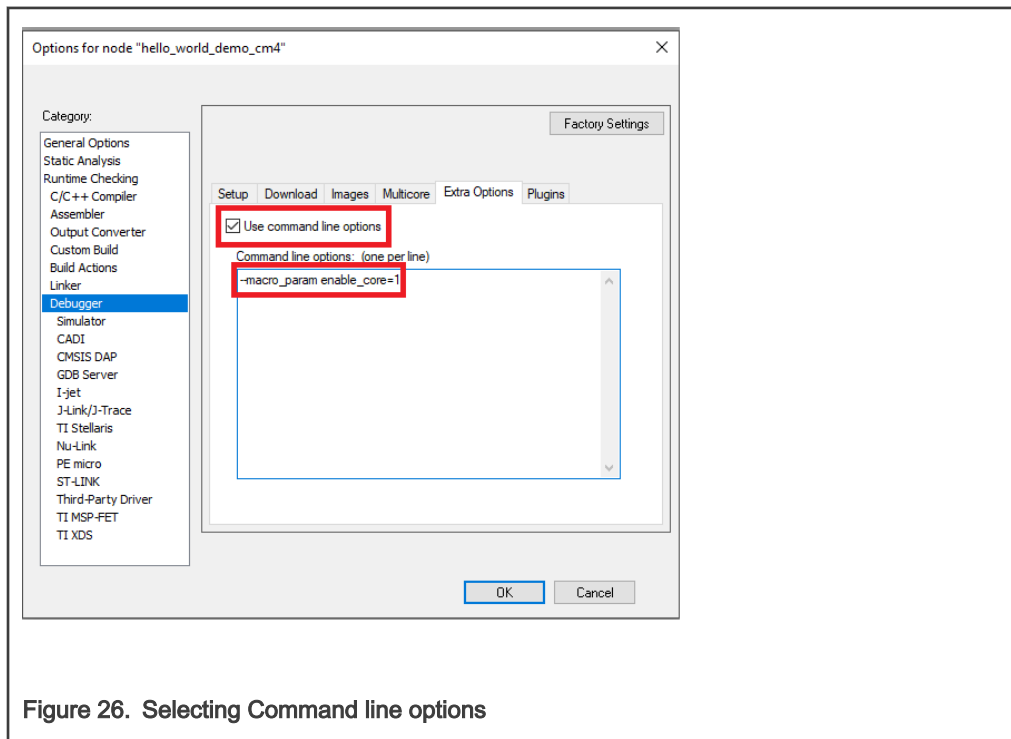

Figure 26. Selecting Command line options
- When using CMSIS-DAP to debug CM4 sdram related target (`flexspi_nor_sdram`, `sdram_txt`, etc) in IAR, an extra option need to be specified in debugger settings. Check and fill in `--macro_param enable_core=1` in **Debugger -> Extra Options -> Command line options**, as shown in Figure 26.